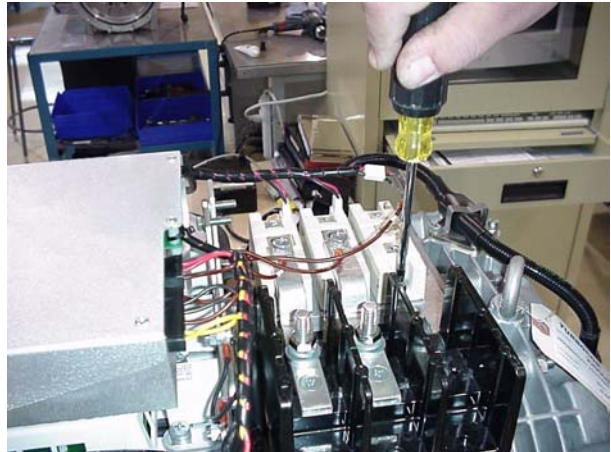

Figure 6-13 Removing the Rectifier Diode
7. Remove the two Phillips-head screws that secure the rectifier diode to the cooling manifold. Refer to Figure 6-13. Lift away rectifier diode.